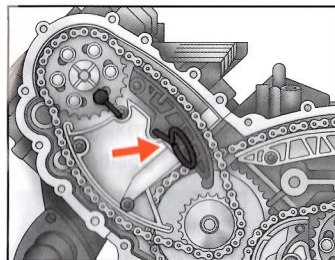

Fig.42
- (1) Select the appropriate Tensioner Retaining Pin (Part No.I or J). Press the chain tensioner rail, compressing the tensioner plunger and retain in place using Tensioner Retaining Pin (Part No.I or J). (Fig.42)